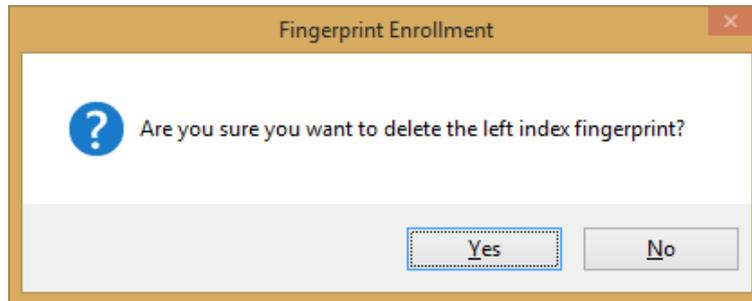

Figure 7
3. Click **Yes**. Confirmation message will appear for fingerprint deletion as shown in **Figure 7**.